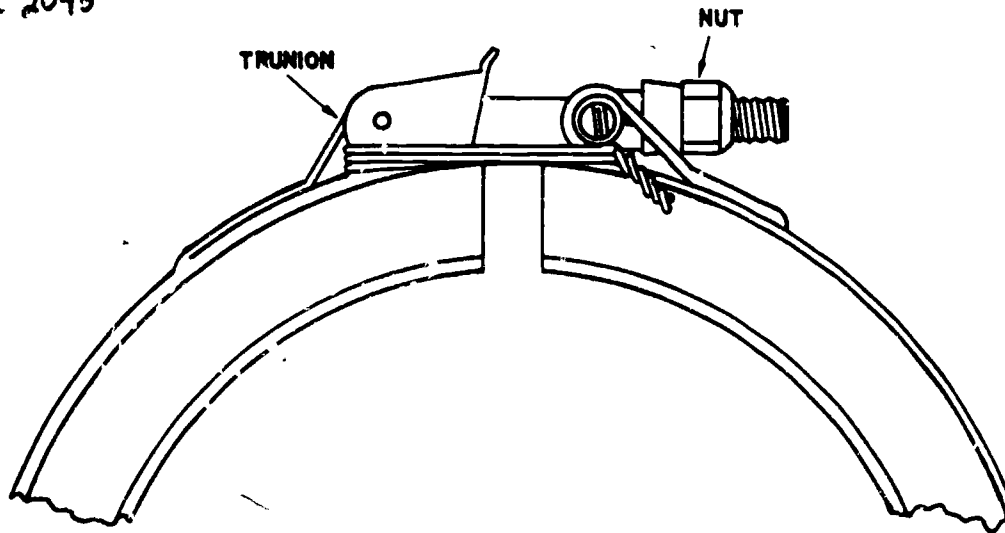

Figure 4. Top View of V-Band Clamp.
- 2. Refer to figure 4 for correct installation of the wire and safety the V-band clamp by performing the following steps.
- a. Position the trainer so that the clamp looks similar to figure 4.